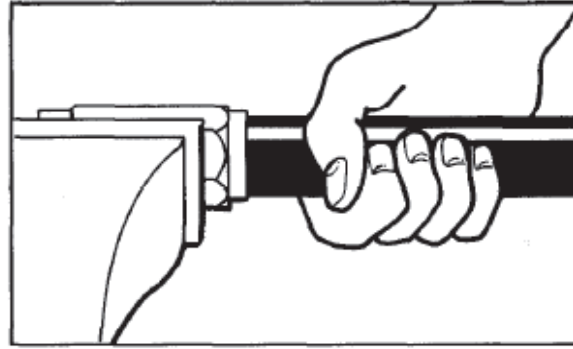

Figure 2 Removing Ferrule
- e. With the ferrule clamped in the vice (Figure 2), remove the hose by turning it in a clockwise direction.